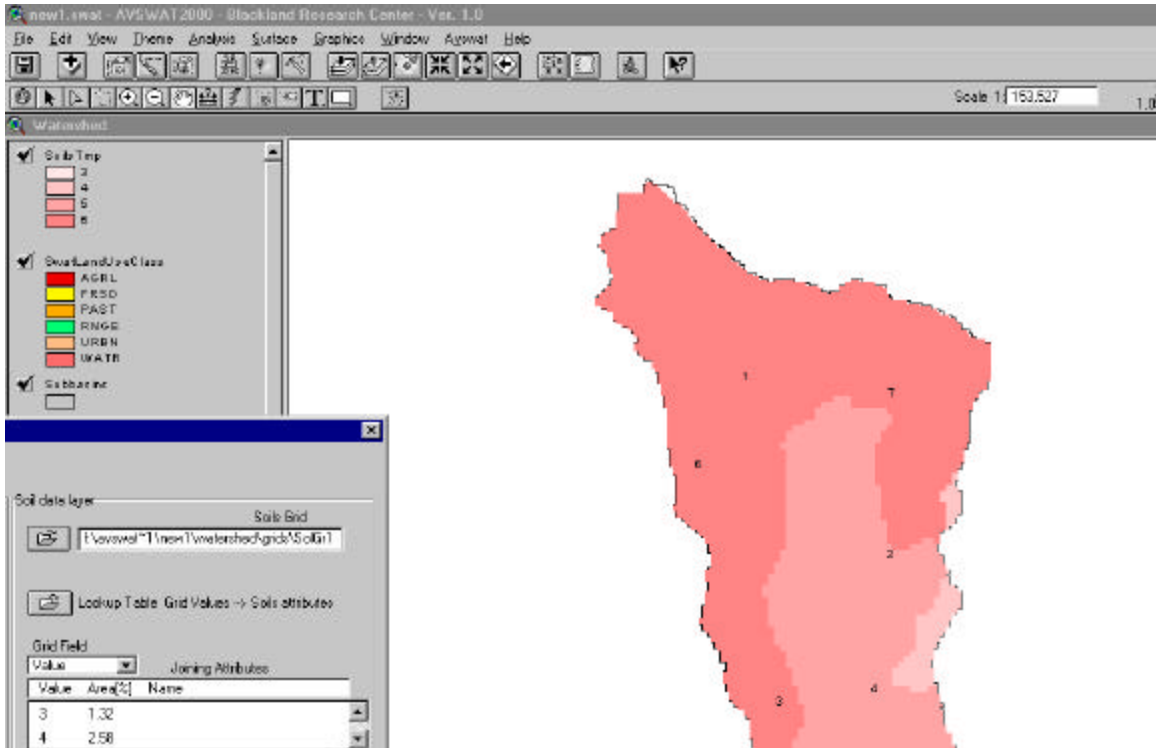

Figure 6.37
7. A new theme, *SoilTmp*, is added to the *Watershed View* where the user may review the results of the map processing. The path of the resulting grid is shown in the text box labeled **Soils Grid**. The list box displays the soil grid values with percent watershed area as well as attributes that will store (some could be already populated) the soil description information (Figure 6.37).